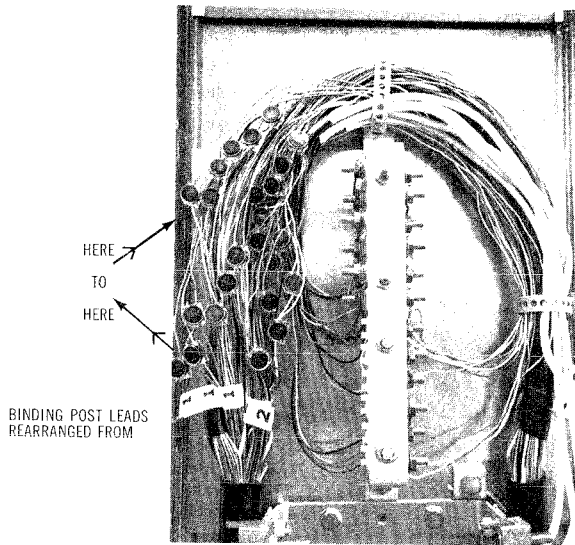

Fig. 21—Rearranging Binding Posts
- (1) Cut the binding post leads as near as possible to the UG connectors. Do not attempt to remove the UG connectors from the cable pair conductors.
- (2) Separate the newly assigned cable pairs from the assignable count binder group. Make certain these pairs are not damaged.
- (3) Reconnect the binding post leads to the newly assigned cable pair as described in Part of this Practice.
- (4) Fig. 21 illustrates the rearrangement of three pairs of assigned binding post leads.